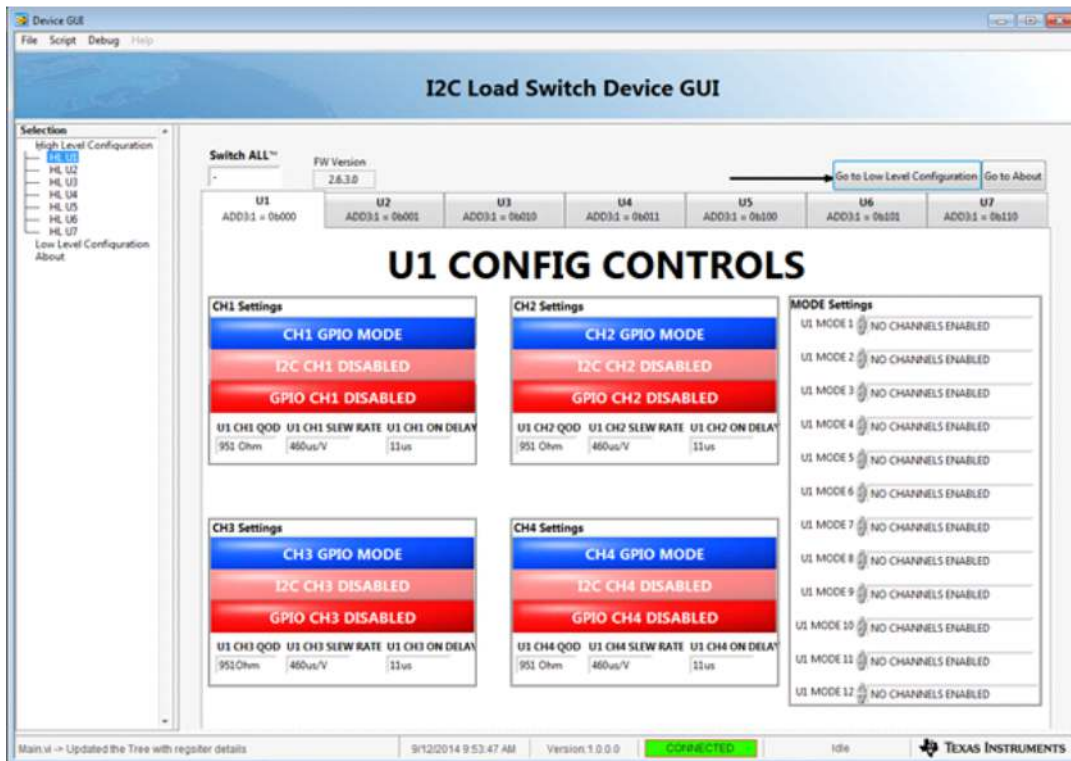

Figure 5. I2C Load Switch GUI Application Window
- (A) Go to All Programs >>> Texas Instrument >> I2C Load Switch GUI to launch the application.
- (B) The I2C Load Switch GUI application window should pop on your screen, see Figure 5.
- (C) You are ready to begin using the software and the demo board.